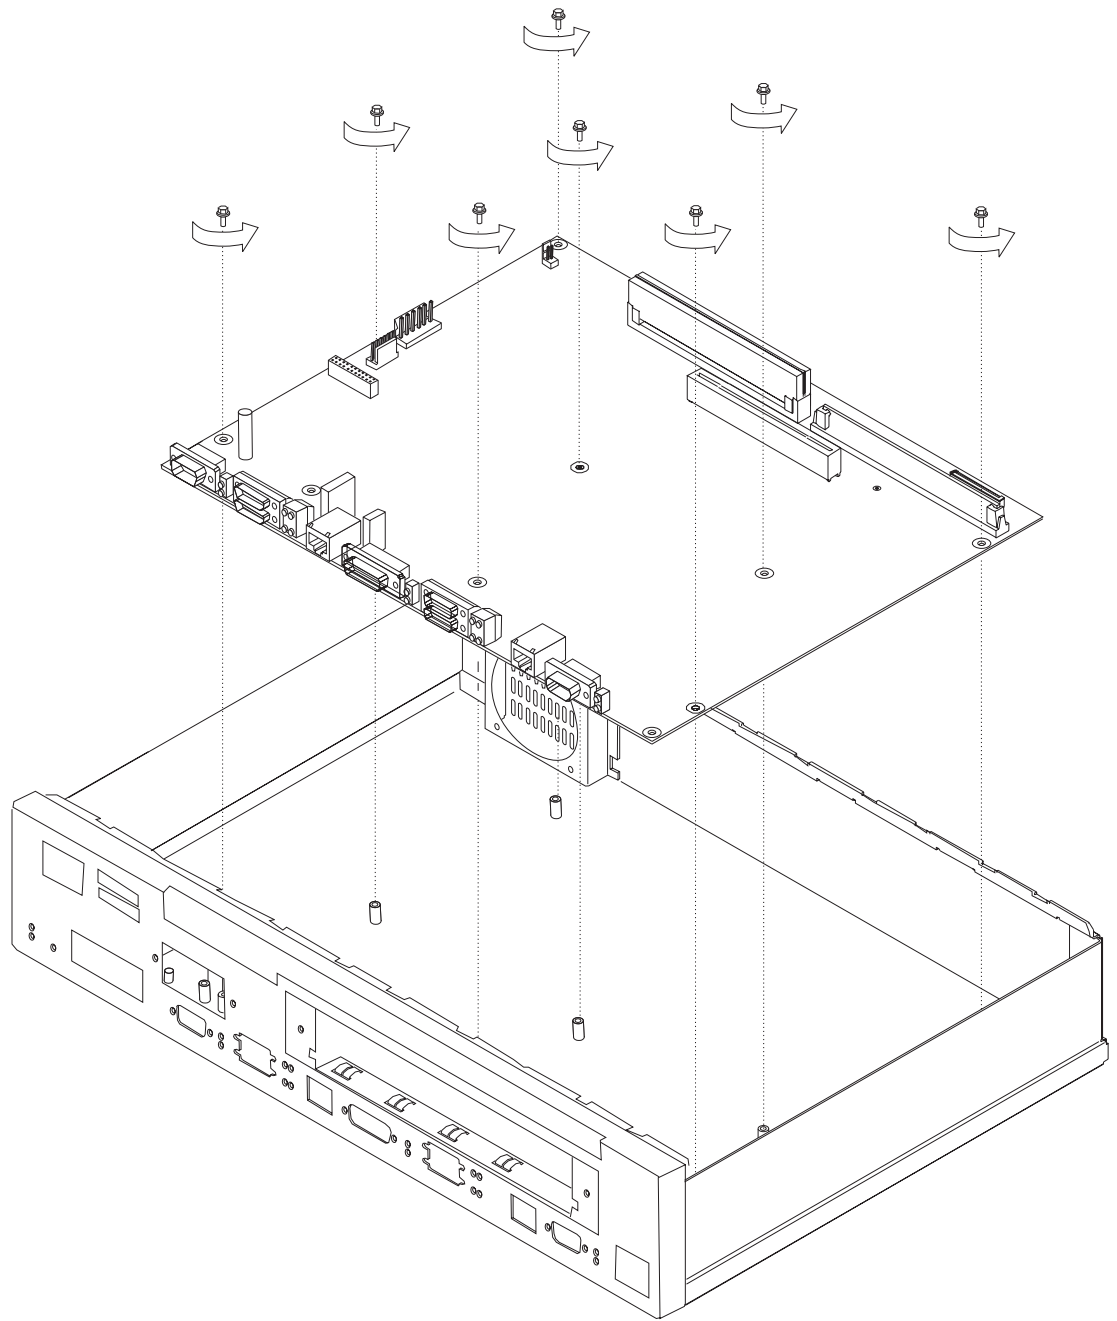

Figure 4-14. Retainer Screws on 14T and 24X Models
- 8** Remove the system board retainer screws using a nut driver. Figure 4-14 on page 4-11 shows the location of the retainer screws.